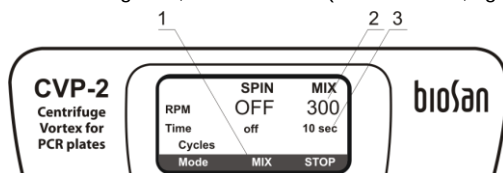

Fig. 6. Vortexing
- 4.11.1. Select the vortexing mode (indication **MIX** of **Mode** parameter, fig. 6/1).
- 4.11.2. Set the required vortexing speed, from 300 to 1200 rpm (increment 100 rpm, fig. 6/2).
- 4.11.3. Set the required vortexing time, from 1 to 60 s (increment 1 s, fig. 6/3).